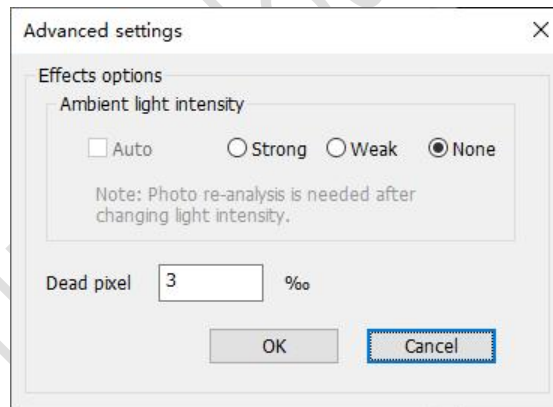

Fig.3-29 Effects settings for CCM6000 (COB module)
**COB:** If you have selected **COB** before, the available options in **Effects settings** will not include **Interchangeable after calibration** and **Image dust off**, as shown in Figure 3-29.